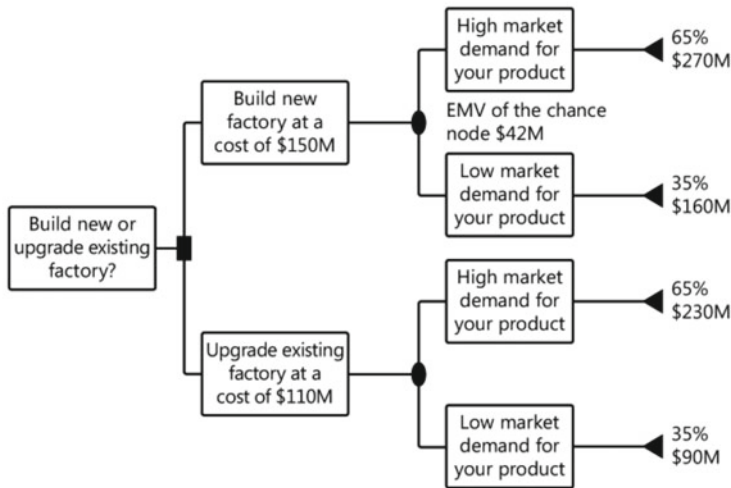

Figure 9-9. A decision tree showing the expected monetary value of building a new factory or upgrading an existing factory
3. Consider the decision tree shown in Figure 9-9, outlining a choice about whether to build a new factory or upgrade an existing factory to take advantage of increased demand for your product. Using expected monetary value analysis, what is the best decision to make?